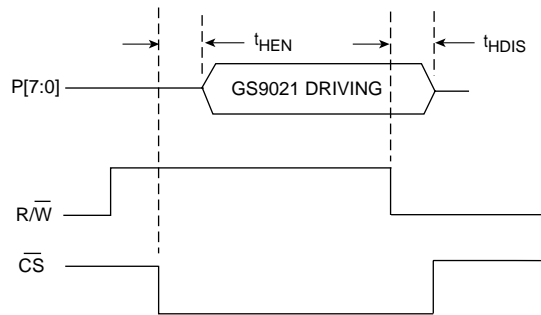

Fig. 8b HOSTIF Parallel Port Output Enable and Disable Times
- C) The GS9021 drives the $P[7:0]$ bus when the R/\overline{W} pin is HIGH and the \overline{CS} pin is LOW. At all other times, the $P[7:0]$ port is in a high impedance state. The host interface enable and disable times are shown in Figure 8b and are specified in the AC timing information. In this figure, the rising/falling edges of R/\overline{W} and \overline{CS} are not aligned to illustrate that the state of the $P[7:0]$ I/Os is only a combinatorial function of the R/\overline{W} and \overline{CS} pins.